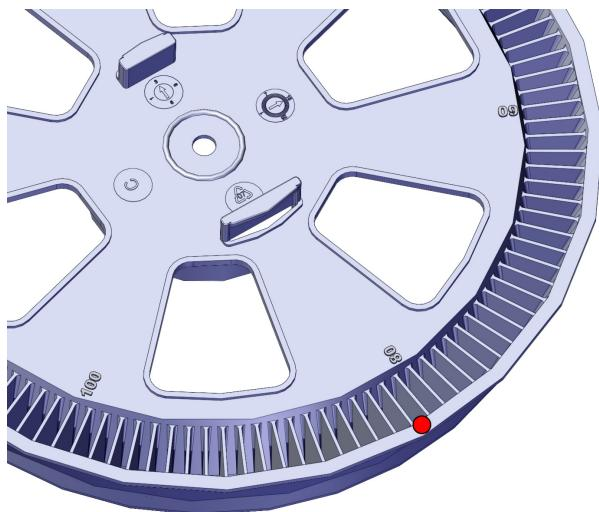

Figure 6.14 Z ref. adjustment point
8. Press the *edit* button to access the screen for memorising the reference currents. See Figure 6.14.